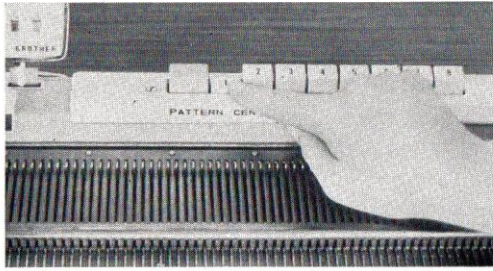

Fig. 6
- (1) Raise up about 50 needles from the position "A" to position "B".
- (2) Push down the "1" button. (See Fig. 6)